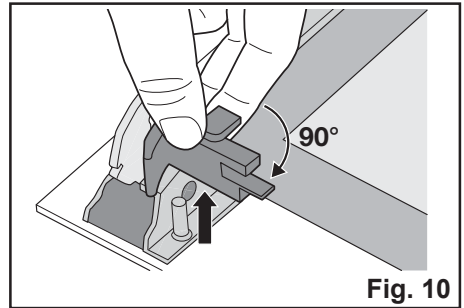

Fig. 10
8. turn the 2 fasteners 90° and extract them from their seats (Fig. 10);